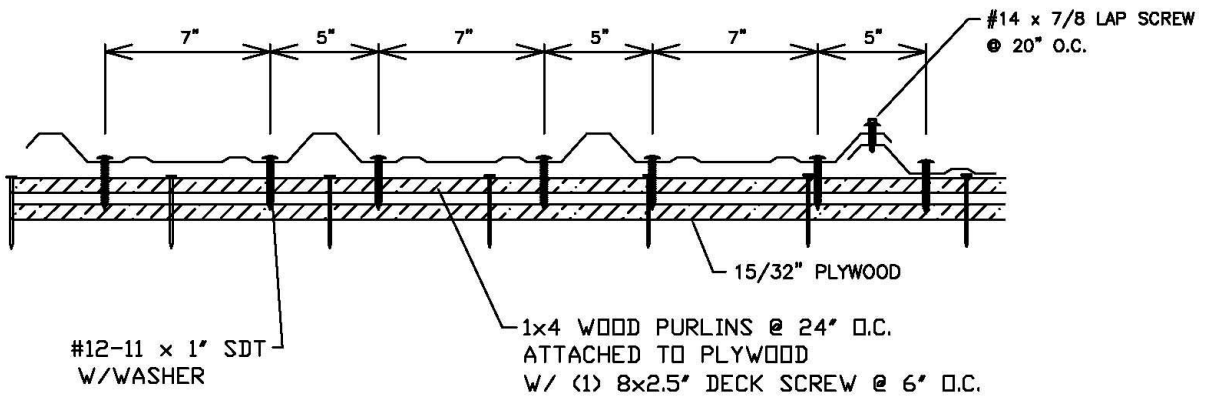

Figure 1. Fastener Pattern A and Fastener Pattern B
**Attachment of Roofing Panels to the 1x4 Wood Purlins:** Minimum No. 12-11 x 1" long, SDT screws with sealing washer, manufactured by Atlas. The required fastener pattern and spacing of the fasteners is specified in Table 1 and are shown in Figure 1.